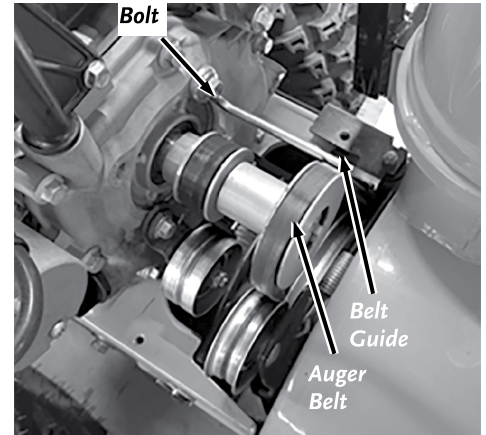

Figure 52
2. Loosen bolt securing the Belt Guide using a 10mm wrench. Move Belt Guide away from the Auger Belt (**Figure 52**).
4. Roll Auger Belt off the front of the Auger Drive Pulley (**Figure 52**).